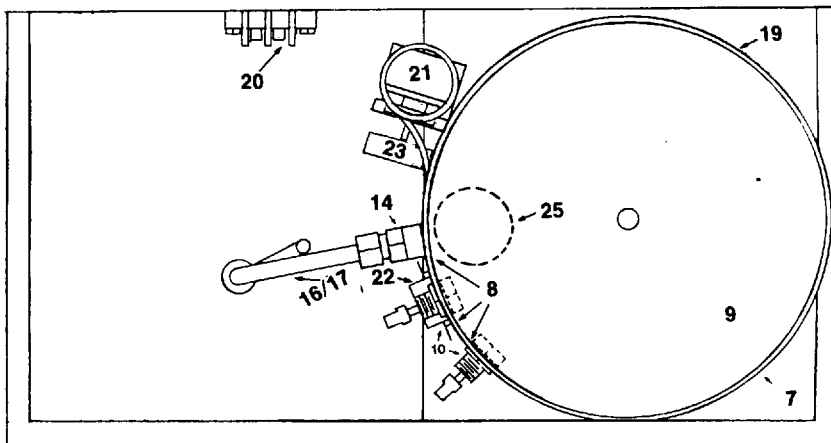

FIGURE 2
4. Remove wires from terminal block (fig. 2 no. 20) that connects to tank (fig. 2 no. 15) and to the main thermostat (fig. 2 no. 21).
THERMOSTAT, MAIN (100038) Fig. 2 No. 21
3. Remove thermostat knob (fig. 2 no. 23) by pulling toward you.
2. Loosen nut (fig. 2 no. 15) securing hi-limit thermostat bracket to tank.
2. Remove the two brass nuts (fig. 2. no. 15) securing heater element in tank. Pull threaded end of element to inside of tank wall.